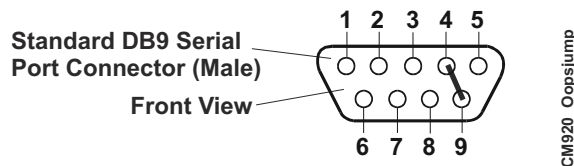

Figure 3-1. Oops! Jumper Serial Port (DB9)
To convert a standard DB9 connector to an Oops! jumper, short together the DTR (4) and RI (9) pins on the front of the connector as shown in Figure 3-1 on the Serial Port 1 DB9 connector.